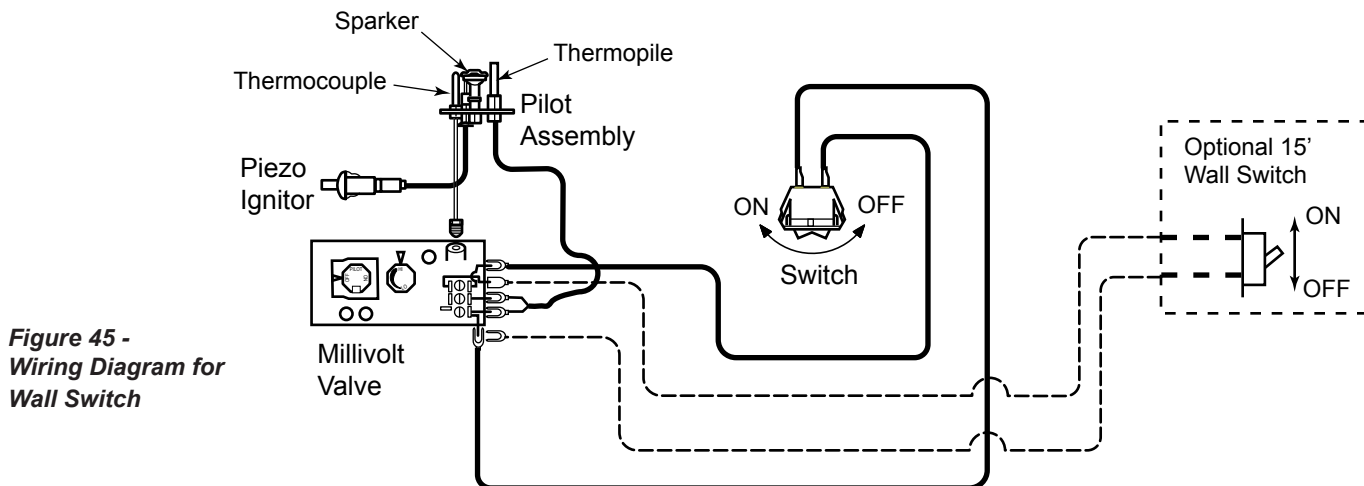

Figure 45 -
A remote wall switch and up to fifteen (15) feet of 18 Ga. wire may be used with this appliance. Attach the wall switch in a junction box at the desired location on the wall. *Figure 45*. Do not extend beyond the wall switch wire length provided.